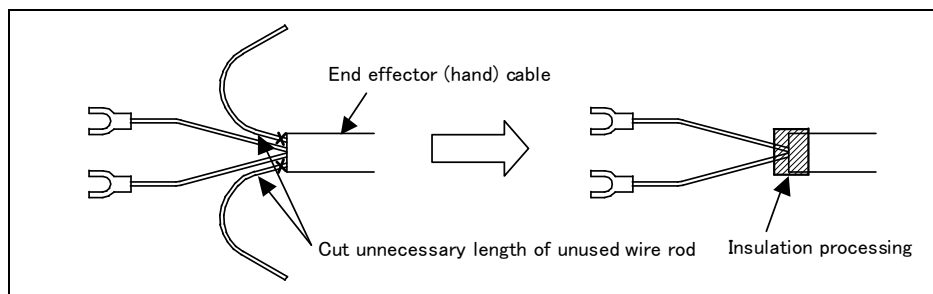

Fig. 9.9 (a) Treatment method of end effector (hand) cable
- Cut and discard any unnecessary length of wire rod of the end effector (hand) cable. Insulate the cable with seal tape. (See Fig. 9.9 (a))
Fig. 9.9 (b) to (f) show the position of the option cable interface. EE interface (RDI/RDO or RI/RO), user cable (signal lines, signal usable to force sensor, signal usable to force sensor and 3DL sensor, power lines) and device net cable (signal lines, power lines), additional axis motor cable (Pulsecoder/ power, brake), 3DL sensor cable and camera cable are prepared as options.